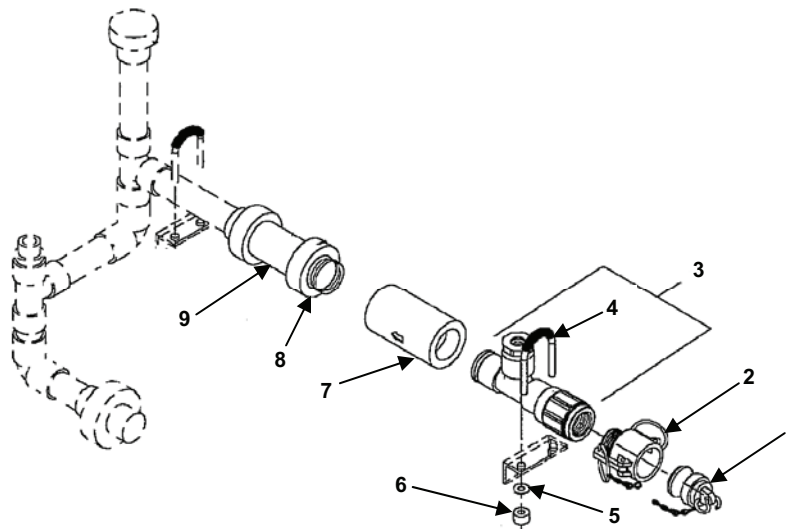

Figure 11. Flow Controller (8 GPM).
1. Install the flow controller (Figure 11, item 7) on to the check valve (Figure 11, item 9). Ensure that the arrow on the flow control valve is pointing in the direction of the flow.
2. Install the tee fitting (Figure 11, item 3) onto the flow controller (Figure 11, item 7).
3. Install the pressure gauge tubing onto the top branch of the tee fitting (Figure 11, item 3).
- a. Install U-bolt (Figure 11, item 4) on the mount and secure with nuts (Figure 11, item 6) and washers (Figure 11, item 5).
- b. Install female camlock (Figure 11, item 2) and dust plug (Figure 11, item 1) on the tee fitting (Figure 11, item 2).